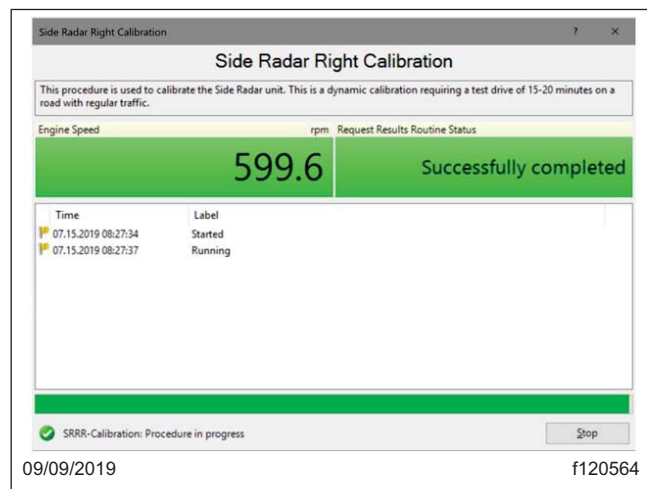

Fig. 32, Completion of Calibration
8. Continue driving the vehicle until the status bar reaches 100%. See **Fig. 32**.